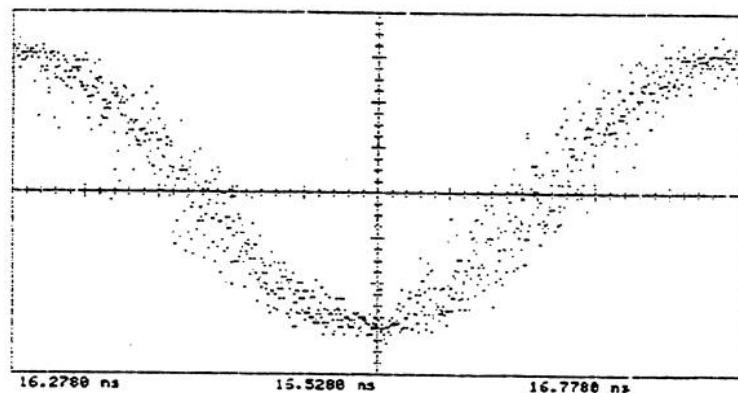

Figure 4-2. Timebase and Delay Settings
8. Re-adjust HP 54120T Timebase Delay to center waveform valley to center graticule. Refer to figure 4-2.